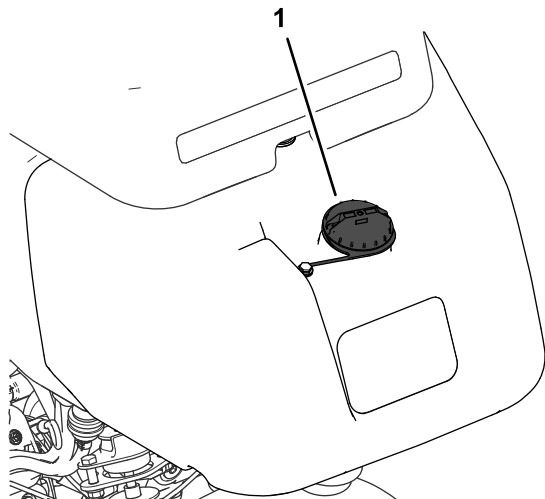

Figure 20
1. Clean around the fuel-tank cap and remove it (Figure 20).